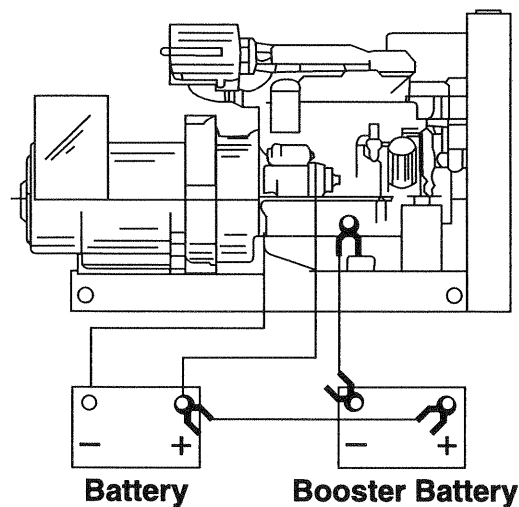

Figure 16: Booster Battery Connections
3. First, connect the positive (+) terminal of the booster battery to the positive (+) terminal of the main battery. Then, connect the negative (-) terminal of the booster battery to ground on the engine block (Figure 16).